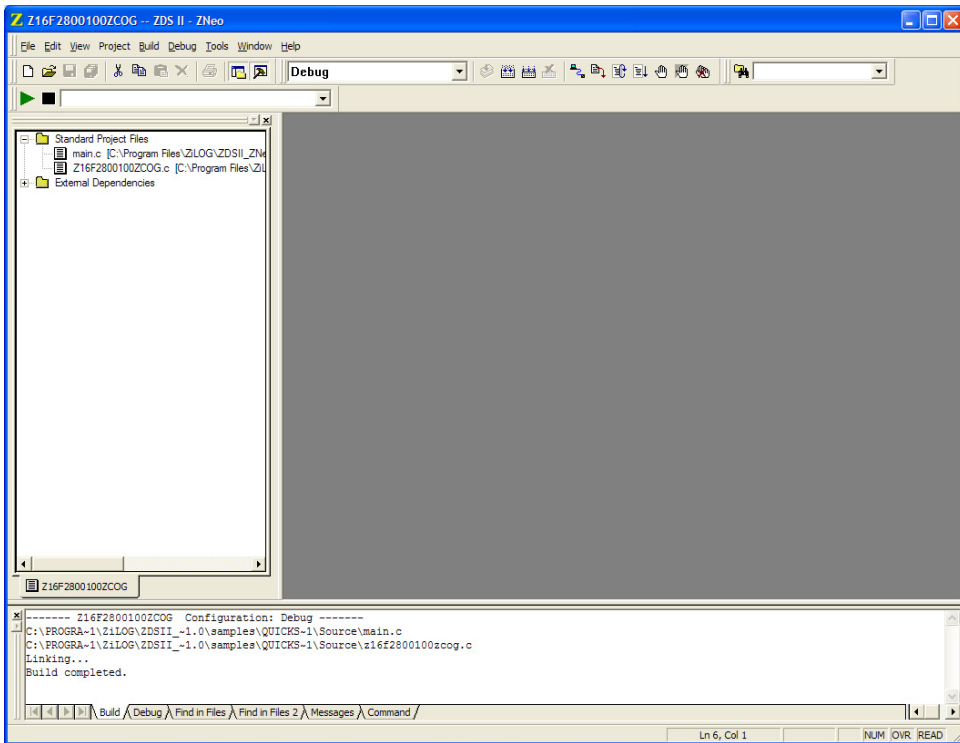

Figure 4. ZDS II Build Completed Screen
7. Click the **Rebuild All** icon to build the project. Wait for the build to complete as indicated by the `Build Complete` confirmation in the status window at the bottom of the screen (see Figure 4 on page 11).